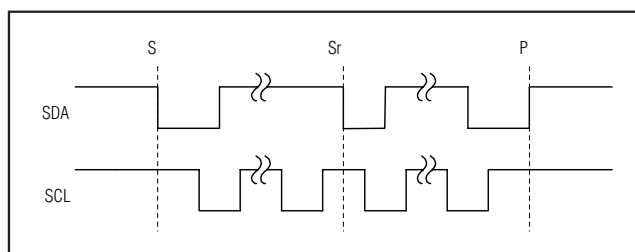

Figure 4. START and STOP Conditions
The master initiates a transmission with a START condition (S), which is a high-to-low transition on SDA while SCL is high. The master terminates a transmission with a STOP condition (P), which is a low-to-high transition on SDA while SCL is high (Figure 4). A repeated START condition (Sr) can be used in place of a STOP condition to leave the bus active and the mode unchanged (see the *HS I²C Mode* section).